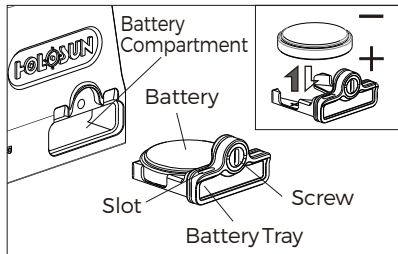

Fig 4
3. Battery replacement. (See Fig 4)